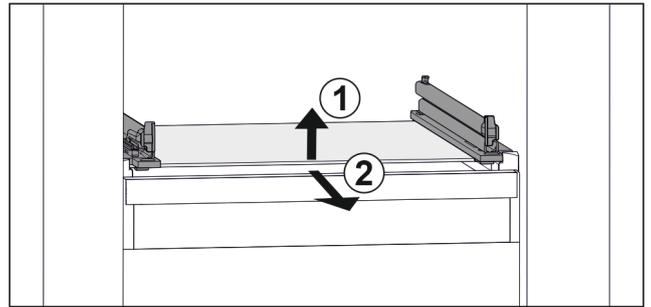

Fig. 38 Example illustration of glass shelf
- ▶ Lift glass shelf at the front Fig. 38 (1)
- ▶ Remove glass shelf to the front Fig. 38 (2)